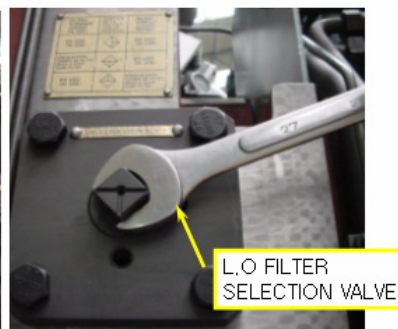

Fig. 2
2. Change over operating filter chamber with stand-by filter chamber by turning the filter selection valve. [Fig. 2]